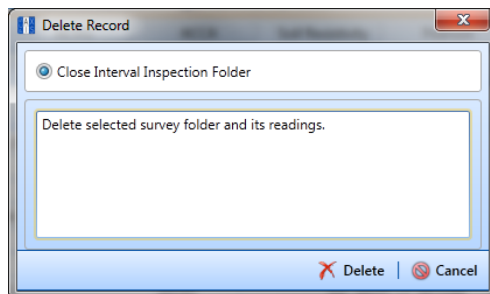

Figure 6-9. Delete Record
- 6 Click  **Delete**. When the message *Delete Record* displays, click  **Delete** again (Figure 6-9).